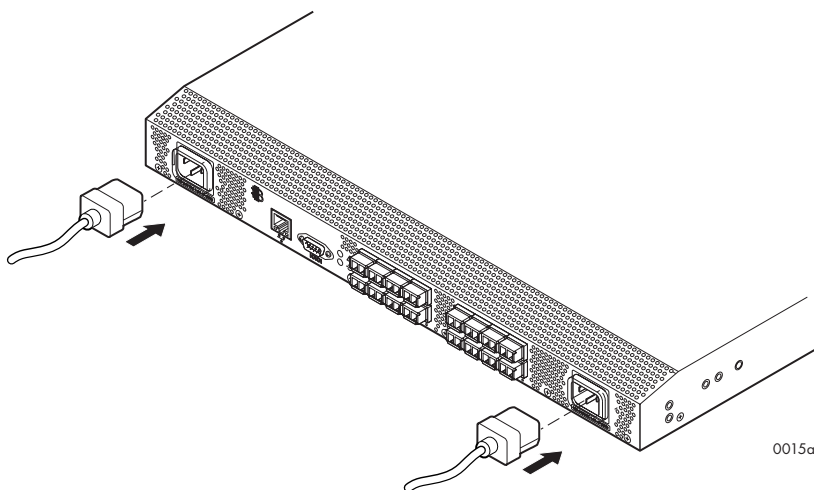

Figure 15: Connecting the power cords
1. Connect the power cords to both power supplies and power sources (Figure 15).